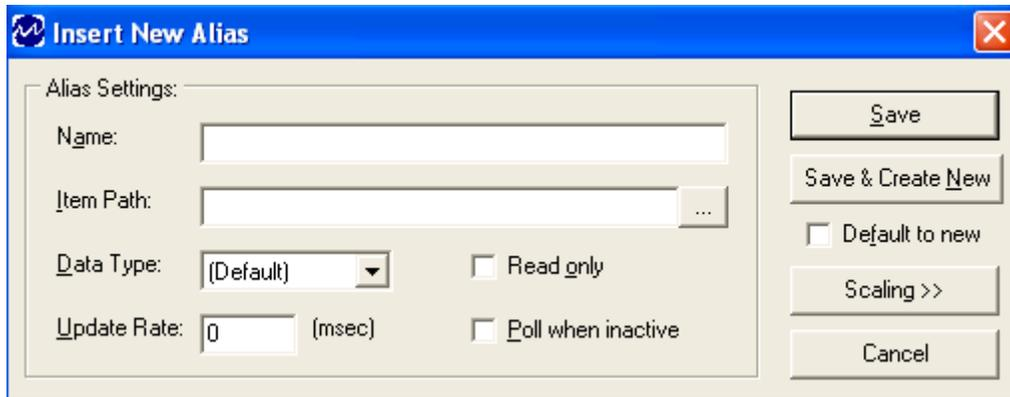

Figure 18 - Insert New Alias Window
Use the **Insert New Alias** window (Figure 18) to insert a new alias into an Alias Group, or insert a new alias on its own directly under the Alias Configuration node.
4. The **Insert New Alias** window (Figure 18) appears.
**Note:** Aliases can be edited after they have been created using the **Edit Alias** window. This is virtually the same as the **Insert New Alias** window (Figure 18), with the exception that it appears after the alias has been created.